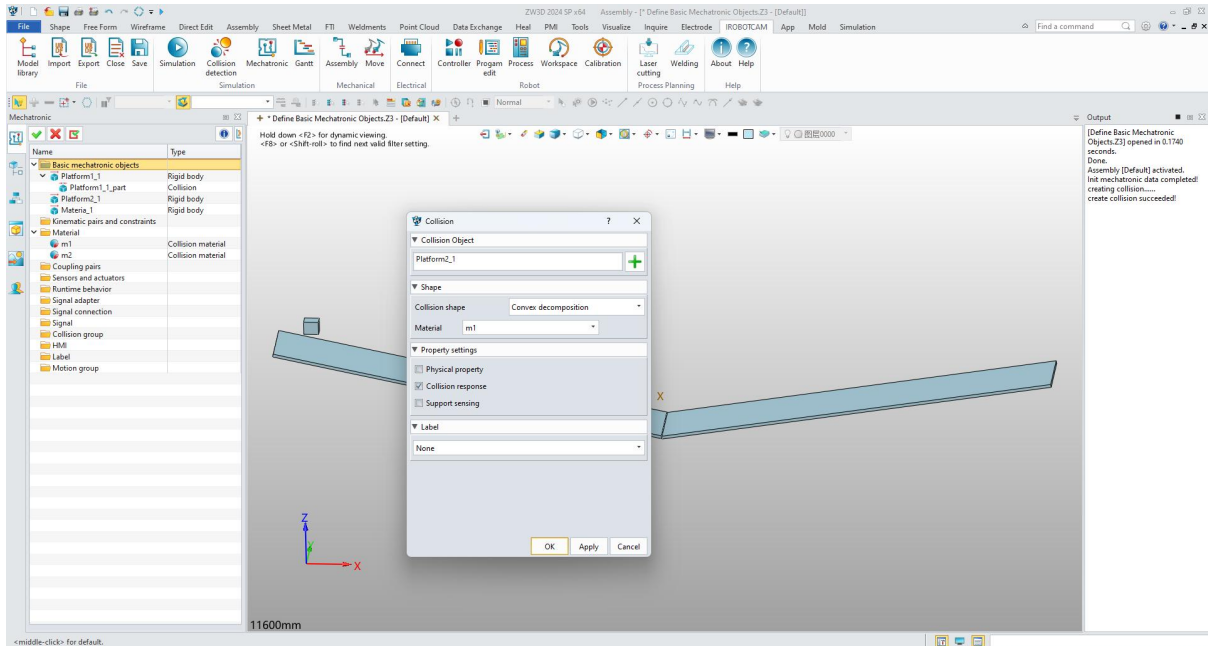

Figure 5-12: Add obliquity collision body
- Repeat above steps to create a collision for the other slope. (Figure 5-12)